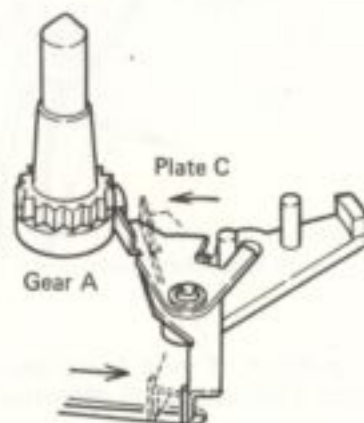

Fig. 14
6. End of plate C engages with convex portion of gear A (Fig. 14).